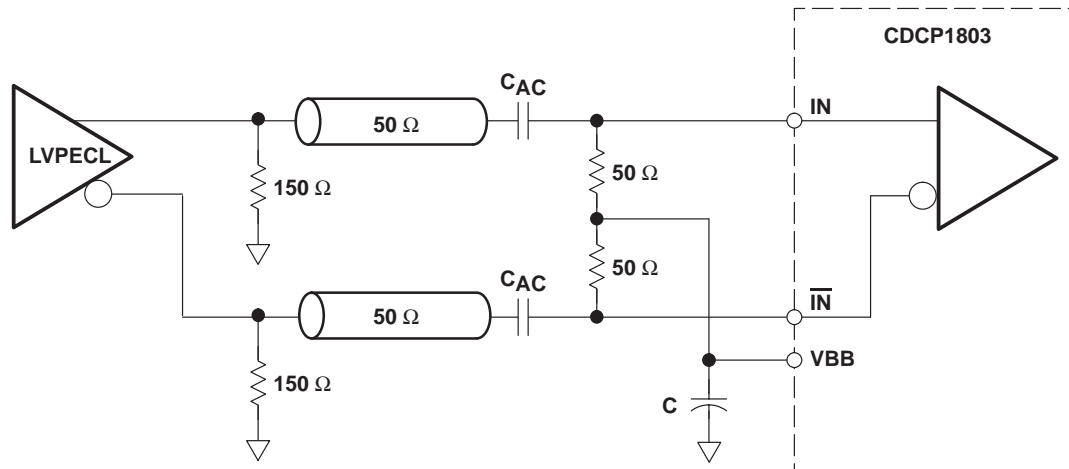

Figure 9. Recommended AC-Coupling LVPECL Receiver Input Termination
For optimized noise performance, it is recommended to properly terminate the PCB trace (transmission line). If a differential signal drives the CDCP1803, then a 100- Ω termination resistor is recommended to be placed as close as possible across the input pins. An even better approach is to install 2x 50 Ω , with the center tap connected to a capacitor (C) to terminate odd-mode noise and make up for transmission line mismatches. The VBB output can also be connected to the center tap to bias the input signal to ($V_{DD} - 1.3$ V) (see Figure 9).